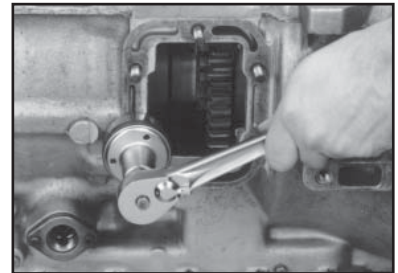

Figure 3
3. Install the proper studs in the PTO aperture pad using a stud driver or wrench (**Fig. 3**).